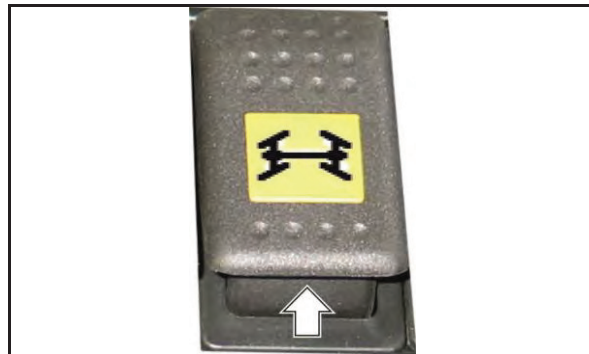

Fig. 133
1. Press the toggle switch "Four-wheel steering" (Fig. 133).